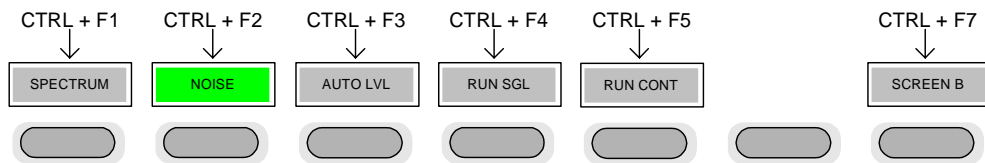

Fig. 1-6 Quick Access to Hotkeys
CTRL keys Used to activate hotkeys. Each of the seven hotkeys is allocated a different function (F) key. To access these hotkeys press CTRL and the corresponding F key together (see Fig. 1-6):